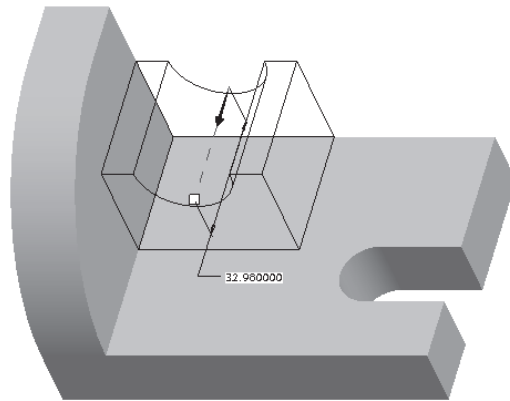

Figure 5-84 Arrow showing the direction of material addition
4. Use the middle mouse button to orient the model, as shown in Figure 5-84. This orientation of the model gives a better view of the sketch in 3D space. A yellow arrow is displayed on the model, indicating the direction of extrusion.